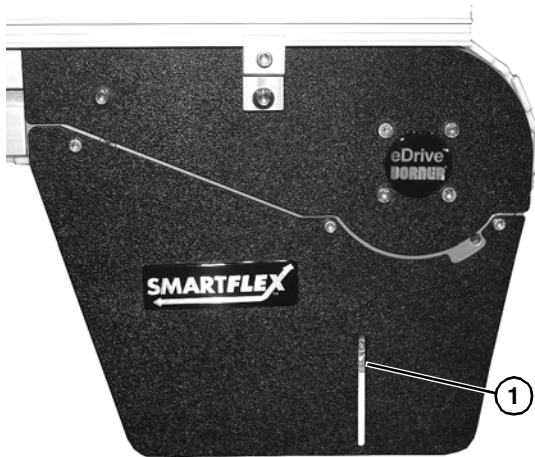

Figure 43
Before inserting belt rod to connect belt ends, be certain that the slack on belt is showing in slotted area (**Figure 43, item 1**) on convey or drive end.